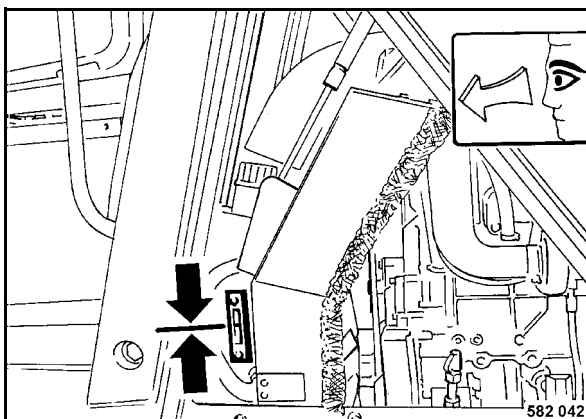

Fig. 61
- Check the hydraulic oil level in the inspection glass (Fig. 61).